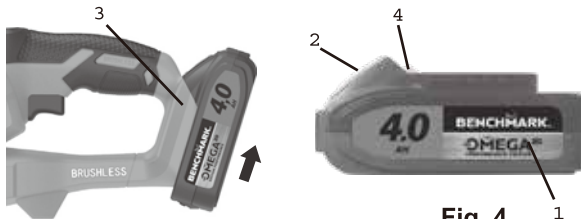

Fig. 4
1. Remove the discharged battery (1) from the brushless hedge trimmer by pressing downward on the battery release button (2) and sliding the battery backward until it is removed from the brushless hedge trimmer port (3) (Fig. 4).
2. Slide the fully charged battery onto the matching keys (4) in the brushless hedge trimmer port (3) where the discharged battery has been removed.